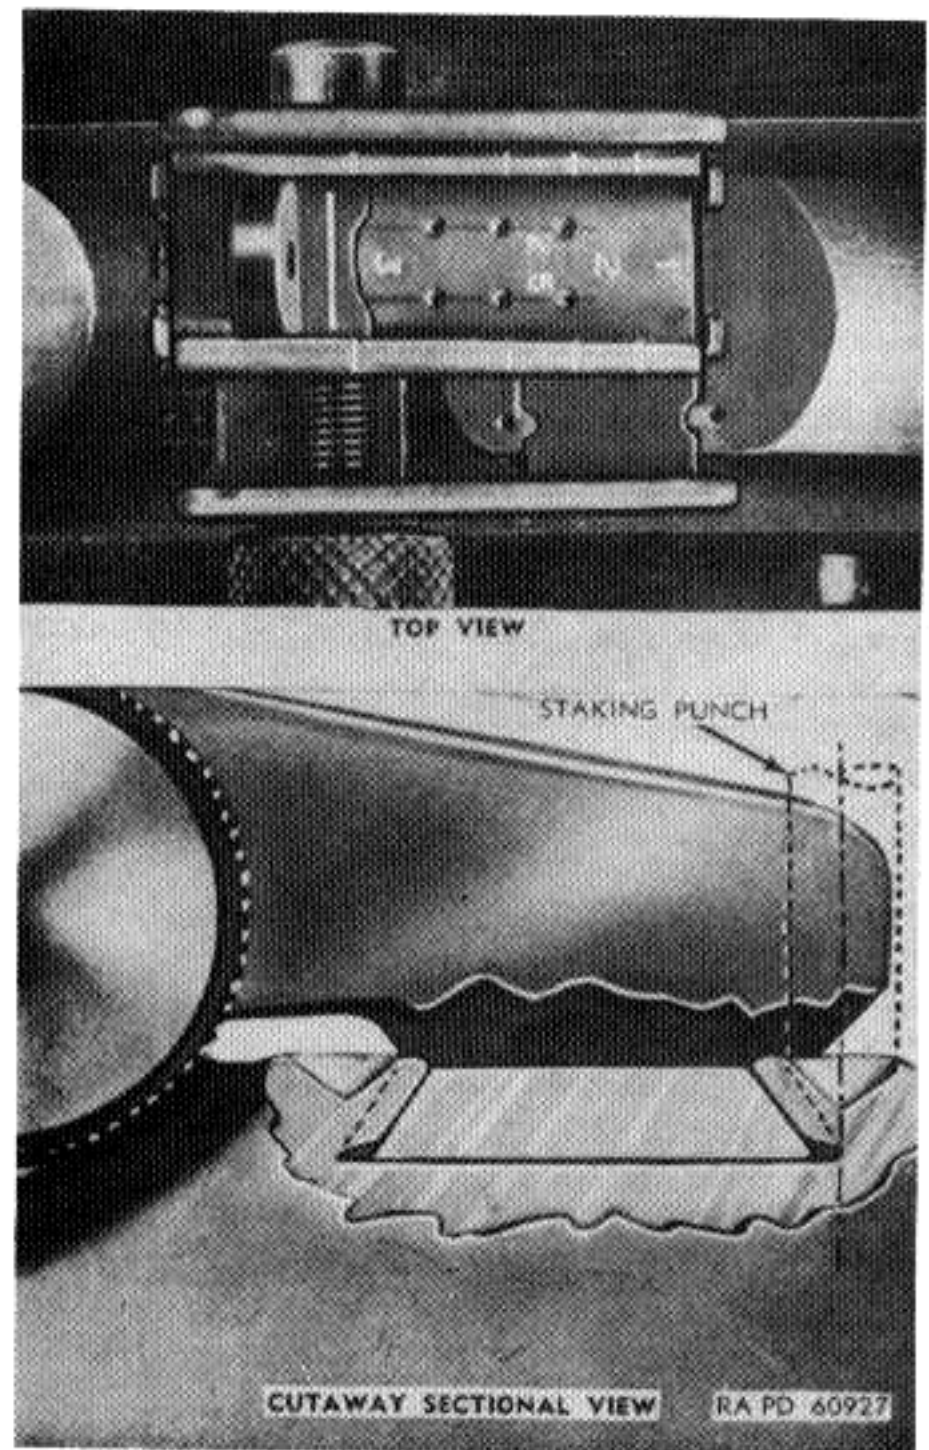

Figure 73. Rear sight showing staking.
- (1) If reading is below 18 inch-pounds indent the area in front of the dovetail slot. This can first be done by using punch 7312234 (Fig. 73) and rapping punch with a hammer. Undertake this operation with extreme caution. A blow only hard enough to cause a flow of metal into the dovetail slot is necessary.
Note. The staking operation is extremely critical and success of this operation will depend largely upon the skill and judgment of the operation (Fig. 73). Bear in mind that the sharp upper edges of the dovetail slot on the receiver are easily chipped or cracked, and such damage will ultimately result in an unserviceable weapon. Many problems will arise which will have to be solved by the individual mechanic; a few of these problems and their remedies are listed in (1) and (2) below.
- (1) Indents on sight base dovetail may be horizontally misaligned with references to holes in sight base. If the indents are slightly out of horizontal alignment they may be corrected by enlarging the indents very slightly with a small three-square file.